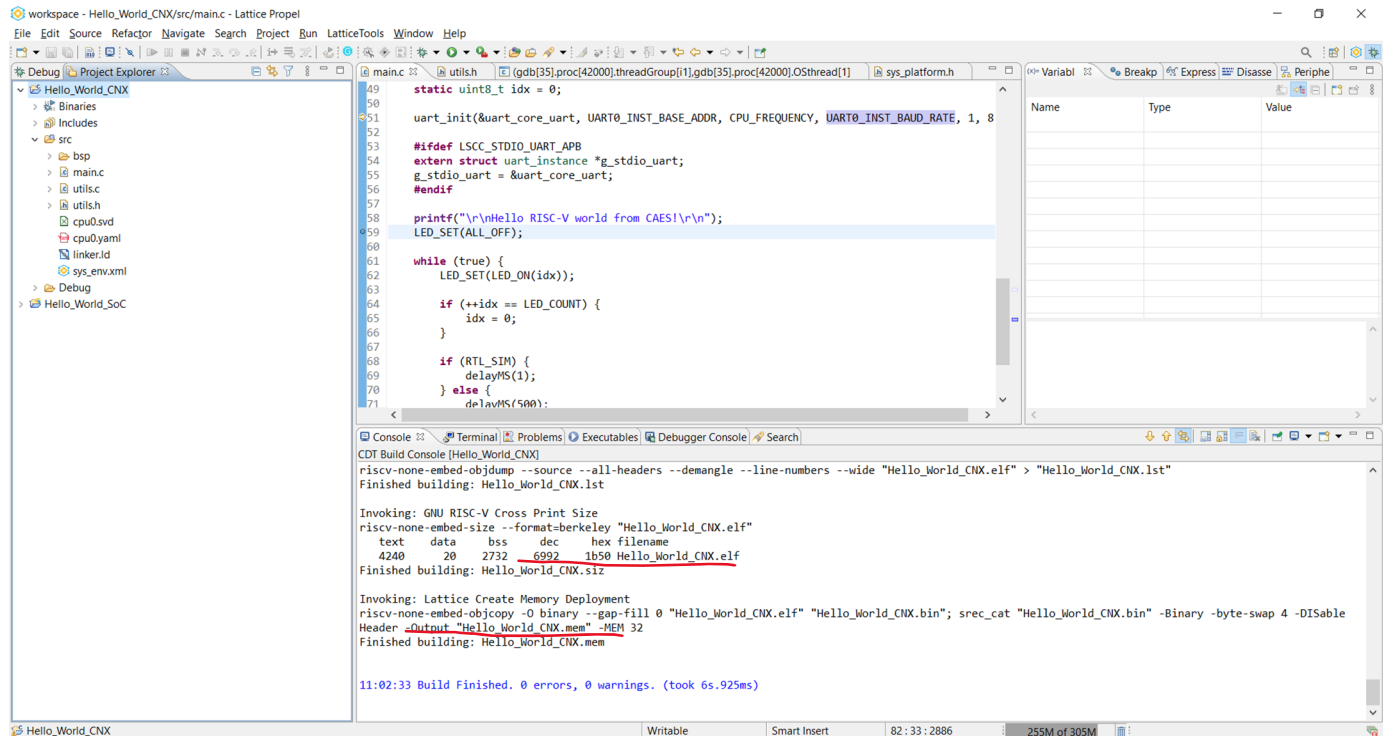

Figure 13: Building the Software Project
10. To build the "Hello World" project, right click on **Hello_World_CNX** and select **Build Project**. The compiler builds the project and generates the necessary output files, see **Figure 13**.